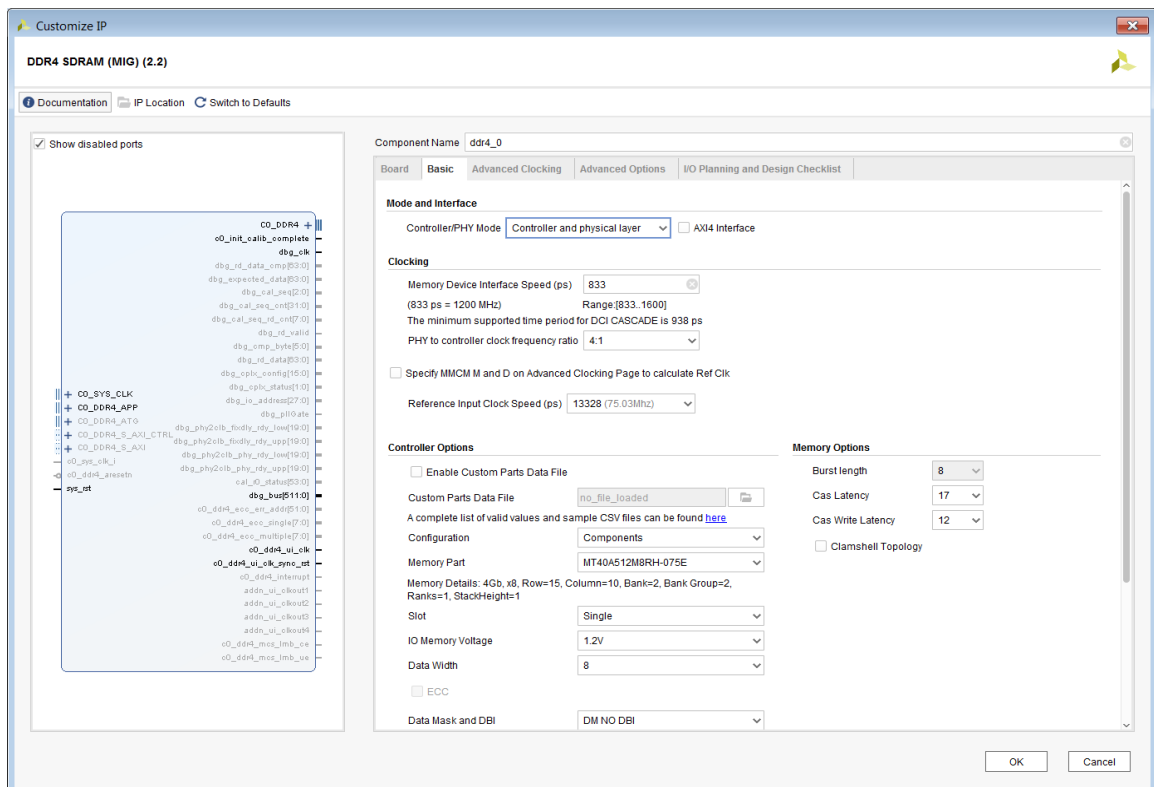

Figure 4-2: Configuring a Memory IP Instance
2. Double-click the desired interface to open the Customize IP dialog box (Figure 4-2).